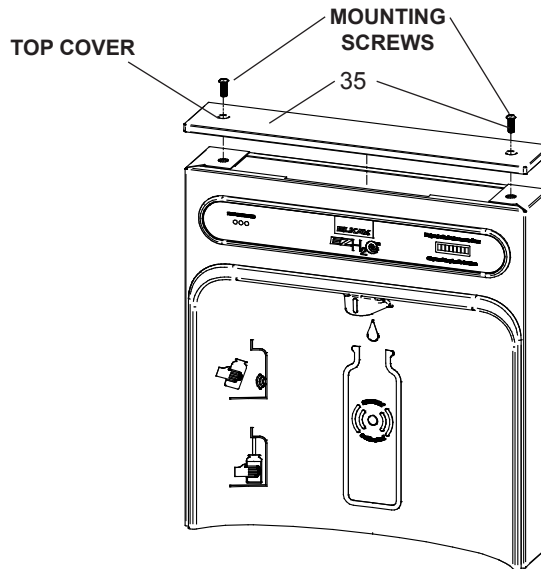
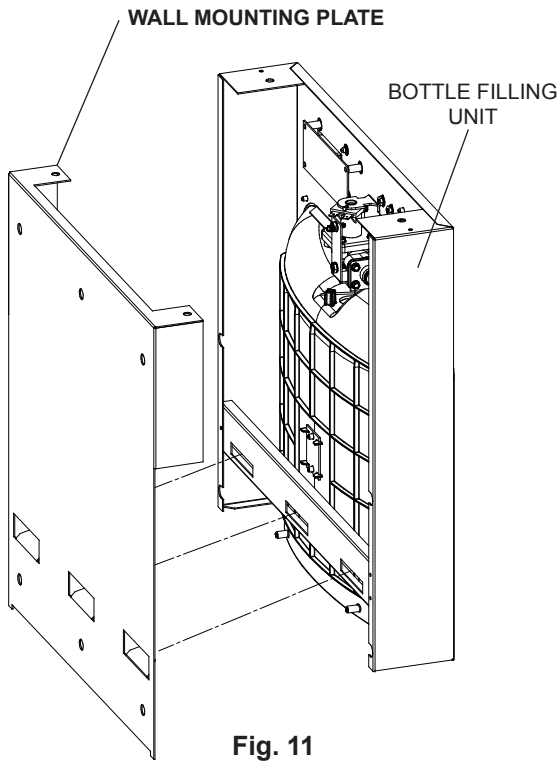

Fig. 8
Fig. 11
- 8) **With the power cord and waterline through hole** on top of water cooler place Bottle Filler on the three (3) angled tabs protruding from the wall mounting plate installed on wall. Make sure round boss in gasket fits in hole of basin. (See Fig. 11).
- 9) **Once Bottle Filler is installed on wall plate tabs,** waterline and power cord are installed properly, push top of Bottle Filler toward wall and line up top cover two (2) holes.
- 10) **Reinstall Top Cover on Bottle Filler** (See Fig. 8) with two mounting screws from step 1 above. Caution, do not over tighten screws.